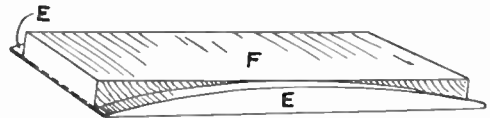

Fig. 4 Details of the roof
The lid of the box consists of the two pieces, (E) and one piece (F) (Fig. 4). Pieces (E) are given full size on the pattern sheet and are cut from $\frac{1}{2}$ in. stuff. Between these two pieces is glued a piece of $\frac{3}{8}$ in. deal $5\frac{1}{2}$ ins. wide by $2\frac{1}{2}$ ins. long. This grain arrangement again allows of easy shaping, using the two outside pieces (E) as guides while trimming away (see detail in Fig. 4).